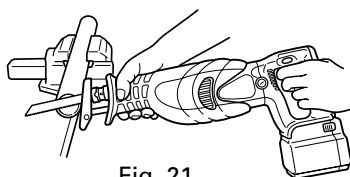

Fig. 21
(1) Fasten a workpiece firmly before operation. (Fig. 21)
(2) When cutting metallic materials, use proper machine oil (turbine oil, etc.). When not using liquid machine oil, apply grease over the workpiece.